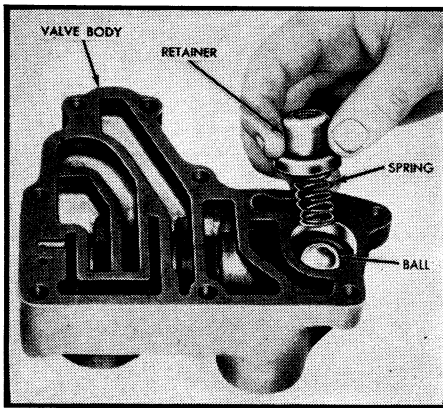

Fig. 36 Lube regulator valve retainer, spring and ball
1. To disassemble, place the valve body on wood blocks with the mounting surface down. Drive the pin out of the valve body, Fig. 36.
retainer, spring and steel ball, Fig. 36.